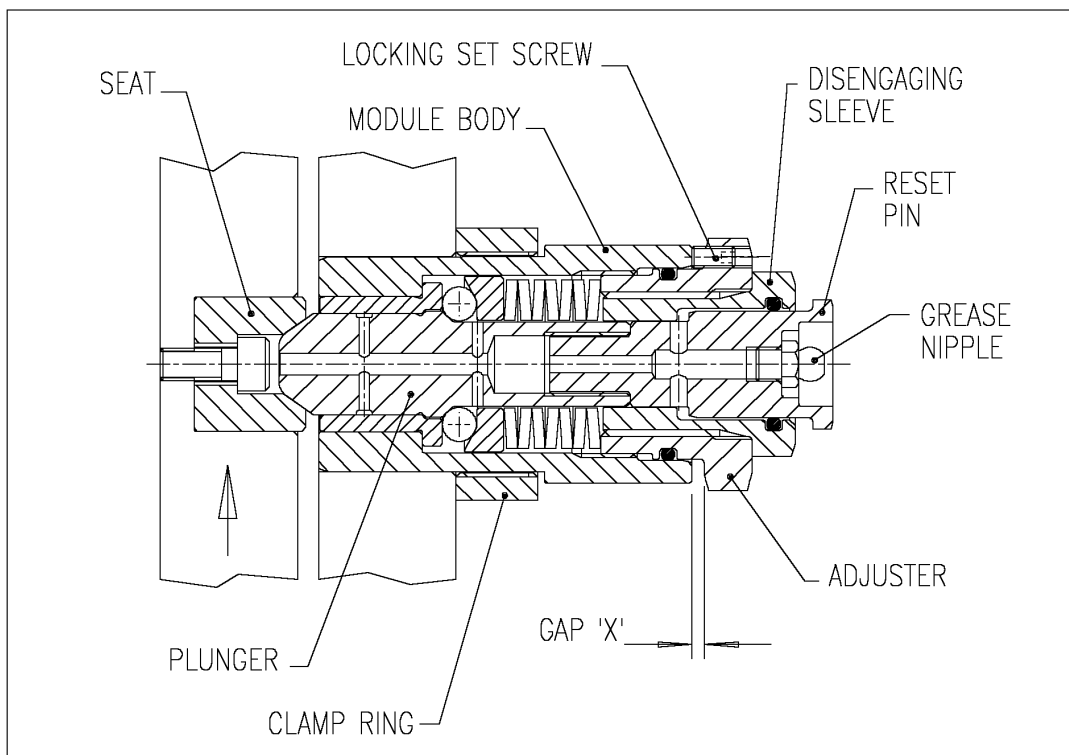

Fig. 2 Typical module sub-assembly
2.5) On manual reset versions ensure there is sufficient clearance at the end of the modules to allow the use of a mallet to strike the reset pin (see fig. 2). Also note the reset pins extend on trip by the dimensions shown in Table 1. Check for adequate clearance in the tripped condition.
2.6) On all versions ensure that access to the grease nipples in the end of the modules is possible (see fig. 2).
3.2) The trip torque can be adjusted by turning the adjuster (see fig. 2), clockwise to increase torque and vice versa. If the required trip torque is known then the gap 'X' can be obtained from the calibration curve supplied with the unit. Alternatively the setting can be determined on site, starting with a low setting, and progressively increasing it until the unit starts and runs without tripping under normal load. In some applications it may be more convenient to reverse this, starting with a high setting and progressively reducing it until tripping occurs on start-up or running, then increasing it until the unit starts and runs without tripping.
To manually disengage the torque limiter rotate the disengaging sleeve (smaller of the two hexagons – see fig. 2) on each module in a **clockwise** direction through several turns until it reaches its stop (note this is a left-hand thread).
8.4) Ensure that the manual disengage sleeve (see fig. 2) is tightened (left hand thread) against the adjuster. If the modules are not pre-set for a specific torque, it is important to ensure that there is some preload in the module. To achieve this, back off the adjuster locking set screws, then turn the adjuster clockwise until resistance is felt, plus one further turn.